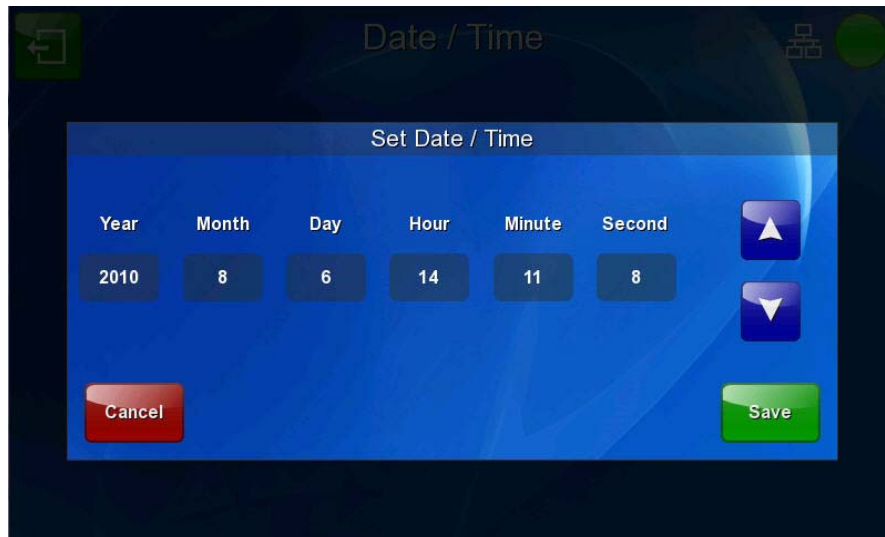

FIG. 53 Set Date/Time popup window
1. From the *Date/Time* page, press the **Set Time** button to open the *Set Date/Time* popup window (FIG. 53).